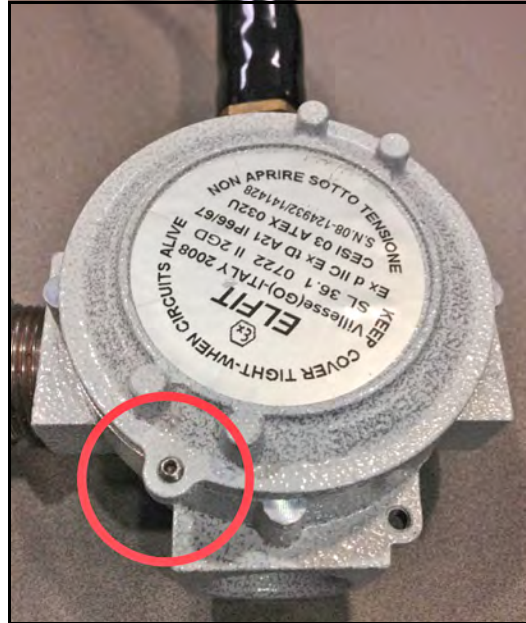

Figure 23: Junction Box Set Screw
10. Place the cap of the junction box over the XAMP and tighten the cap until the junction box is firmly closed. Engage the set screw (see *Figure 23* below) to secure the cap in place.